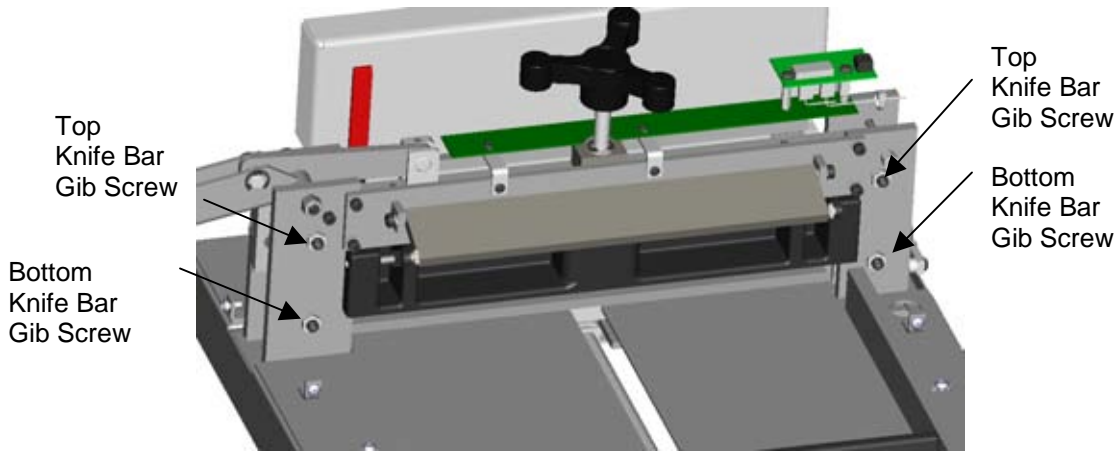

Figure 10
3. Loosen the gib screw jam nuts on each side (Figure 10).